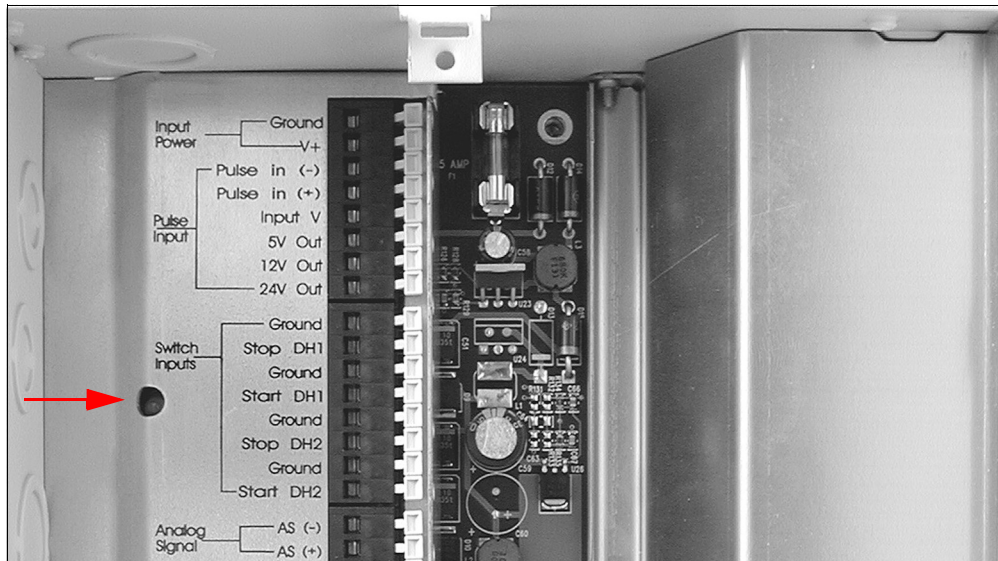
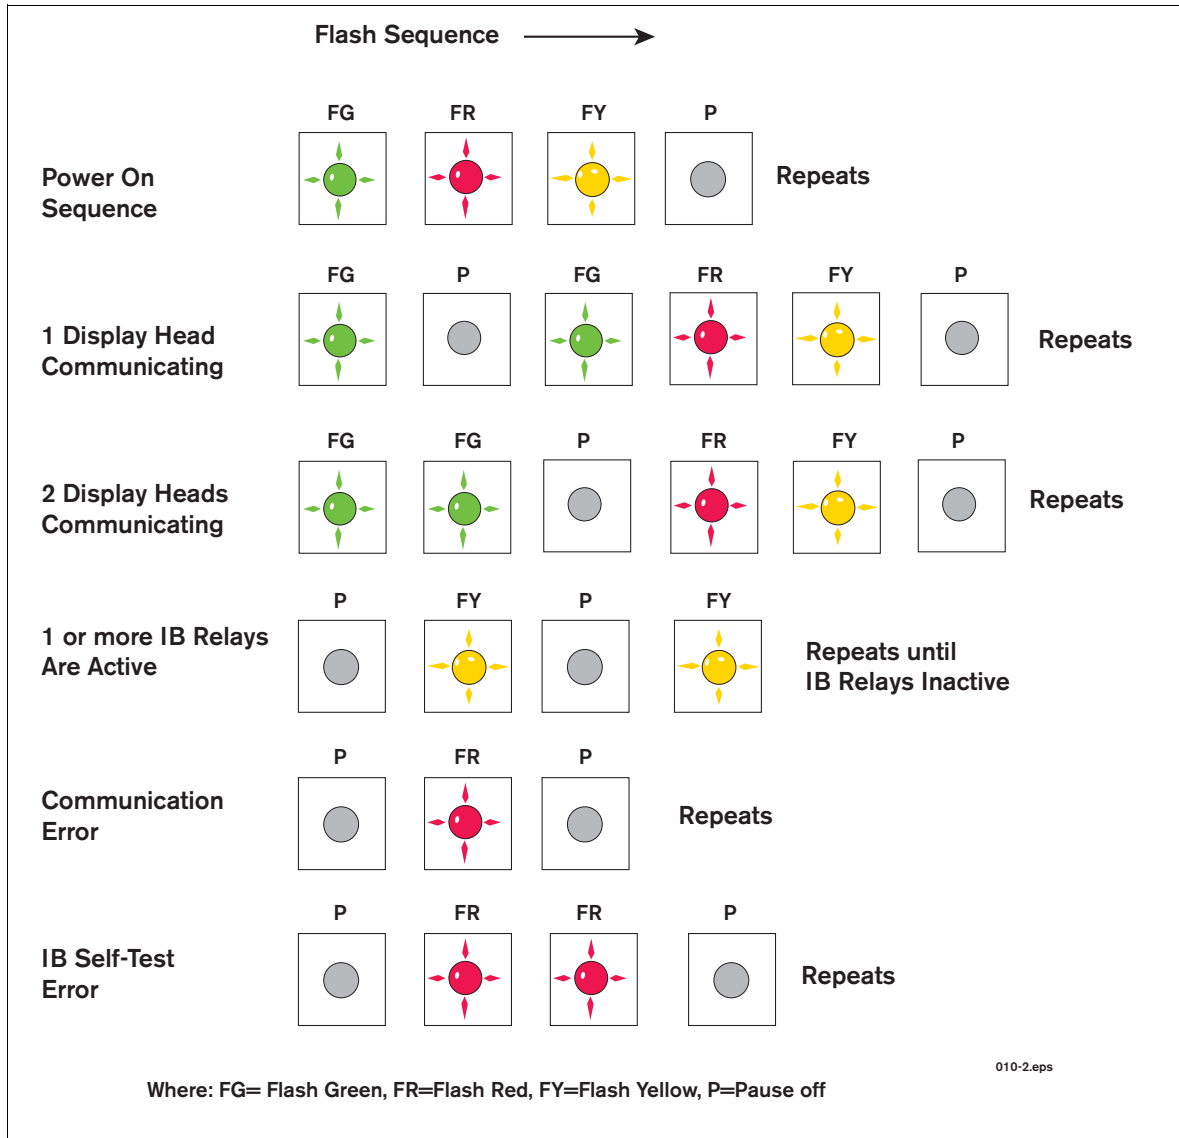

Figure 1. IB Diagnostic Tri-Color LED
Figure 2. IB Tri-Color LED Status Patterns
The tri-color LED is located inside the Interconnection Box (IB) on the upper left hand side and is seen protruding through a hole in the metal wiring shield (see Figure 1). The LED is capable of indicating 4 different states: Green, Red, Yellow and Off (see Figure 2).